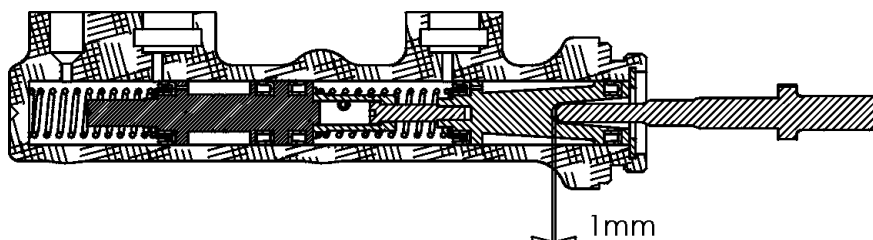

Fig.3
- Check the Pushrod that goes into the master cylinder from the pedal. It should have a 1/16 inch (1mm) of play before you can feel the rod make contact with the plunger (see Fig.3).
- Das Spiel sollte 1 mm betragen. (Siehe Fig.3).